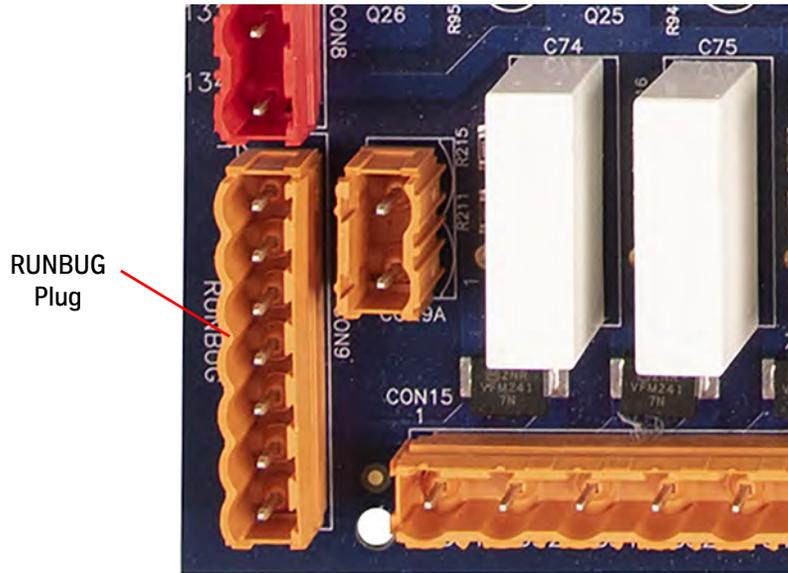

Figure 8 - RUNBUG Plug at CON9 on the IOF Card
- 7. Install the RUNBUG plug at CON9 on the IOF Card. See Figure 8.